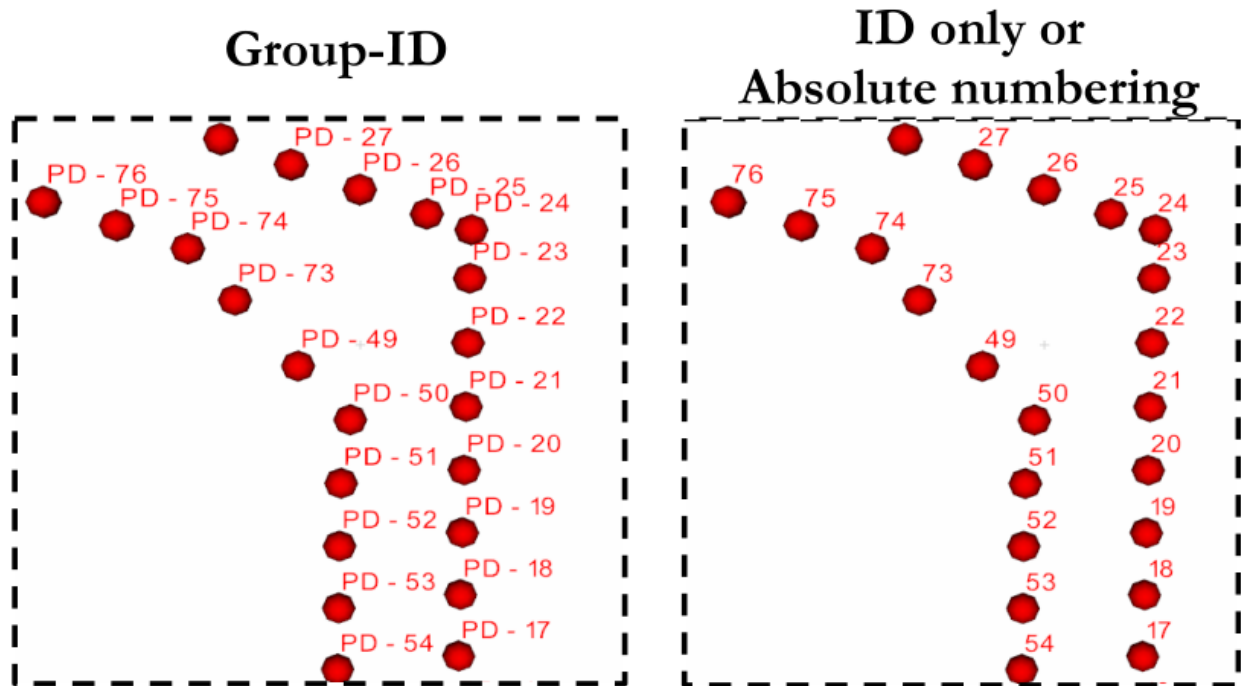

Figure 10.9: Example of different kind of electrodes labels
- *Group-ID*: this label contains the name associated with each electrode during the creation of the project, and it is composed of the “Group” (PD in the following example) and the identification number “ID” (from 1 to 96 in the following example) of each electrode (Figure 10.9);
- *ID only*: this label contains just the identification number associated with each electrode during the creation of the project (Figure 10.9);
- *Absolute numbering*: this label contains the numeration of electrodes; it may coincide with the ID, as in the example in (Figure 10.9).